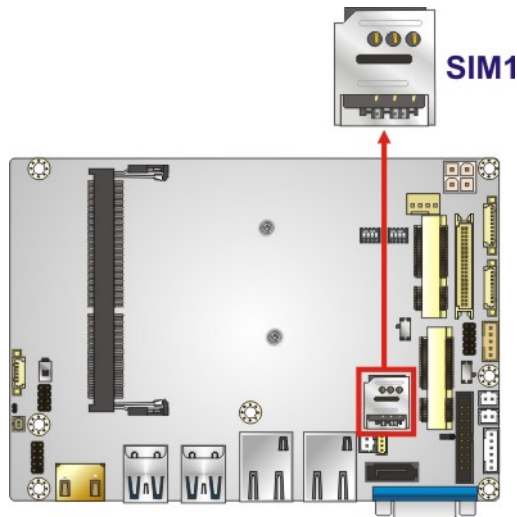

Figure 3-18: SIM Card Slot Location
**CN Location:** See Figure 3-18